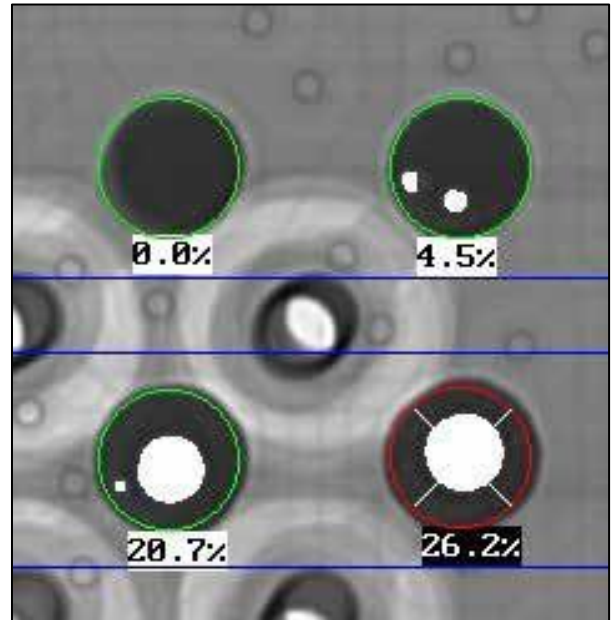

Figure 2 – Voids in BGA Solder Joints (< 25% is acceptable per IPC-A-610).
- Void calculation is used to calculate the percent of voiding in BGA solder joints and BTC thermal pads. This calculation is used to determine if solder joints are acceptable per workmanship standard for voiding (Figure 2).